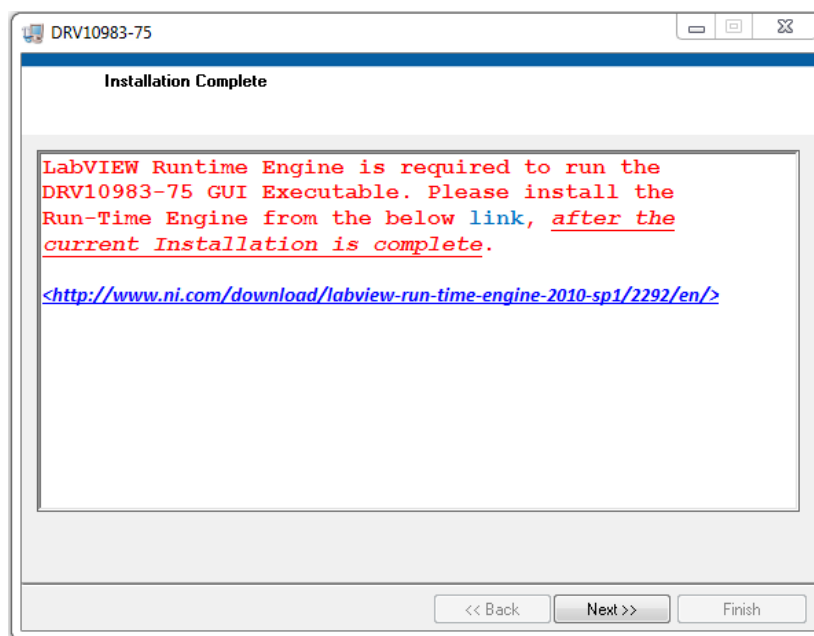

Figure 1-7 Installation Complete
6. A screen as shown in Fig.1-7 will appear that provides the link for LabVIEW Runtime Engine and this denotes the completion of DRV10983/75 GUI Installation.